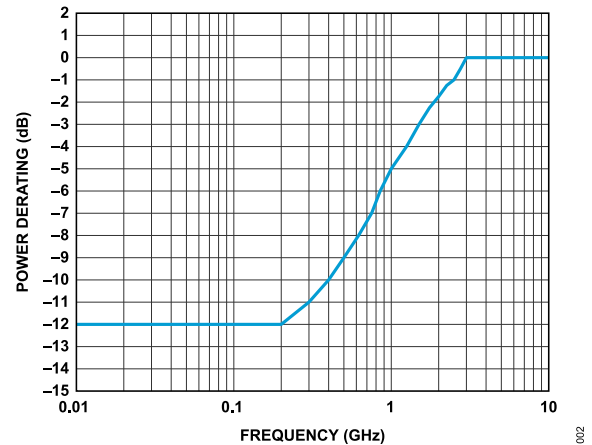

Figure 2. Power Derating vs. Frequency, Low-Frequency Detail, $T_{CASE} = 85^{\circ}\text{C}$.
- For power derating over frequency, see Figure 2.
The power handling of the ADRF5032 derates with frequencies below 3 GHz. See Figure 2 for derating of the RF power towards lower frequencies.